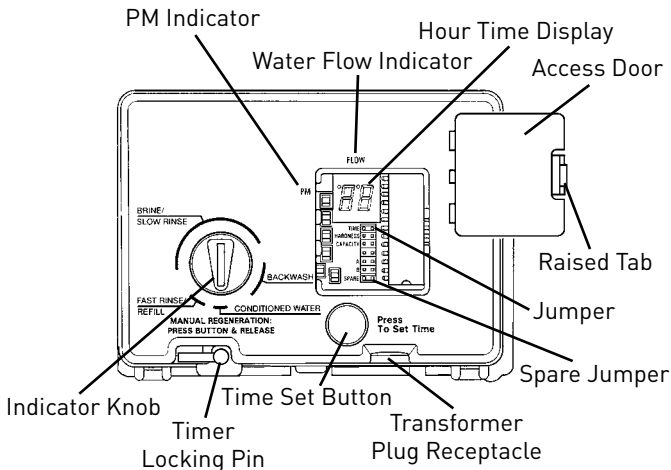
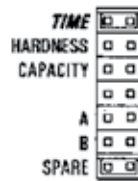

Figure 11
Figure 12
- Set days of regeneration on skipper wheel (Figure 11).
**NOTE:** The Timer Locking Pin should always be horizontal (Figure 11) during operation.
Open the access door by pushing the raised tab on the door toward the left while pulling the tab out (Figure 12).
**NOTE:** The Timer Locking Pin should always be horizontal (Figure 12) during operation.
When abnormally high water usage exhausts your water conditioner's capacity ahead of schedule, an extra regeneration can be achieved. Depress the indicator knob on the 440i (Figure 11) with a wide-blade screwdriver and turn COUNTERCLOCKWISE to START to initiate a regeneration. For the 460i, simply depress the indicator knob (Figure 12). It will take a few minutes for regeneration to start. A normal regeneration will take approximately two hours.